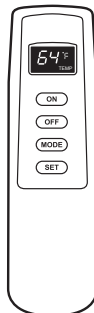

Figure 24 - Remote Control
4. Press the ON button on the remote control to light the burner (see Figure 24). You will hear a series of beeps. This will also "learn", or program, the remote and the receiver.
The factory setting for temperature is °F. To change this setting to °C, press the ON key and the OFF key on the remote control at the same time (see Figure 24, page 21). This will change from °F to °C. Follow this same procedure to change from °C back to °F.